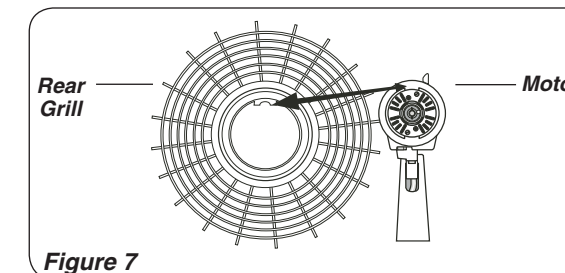

Figure 7
1. Tilt **Head Assembly** back. Put **Rear Grill** on Motor. (**Figure 7**)